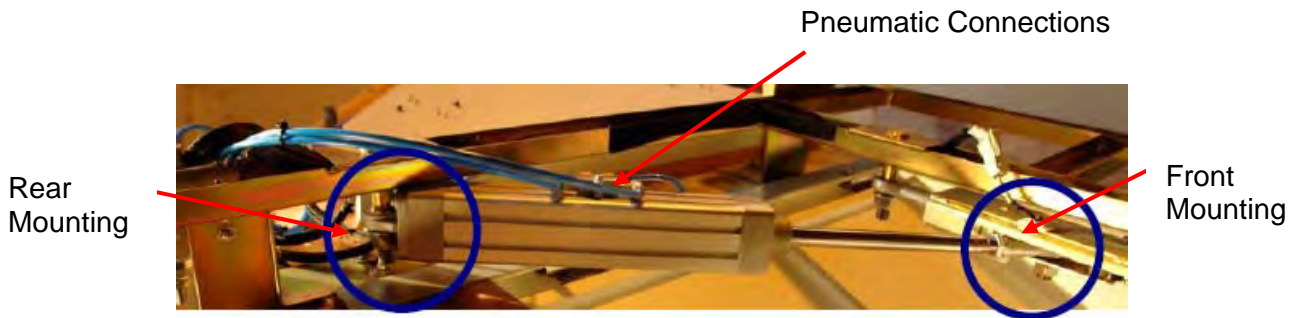

Figure 4: Door Cylinder Mountings
- 4.1 Make a note of the pneumatic connections to the door cylinder. Disconnect the connections (see Figure 4).